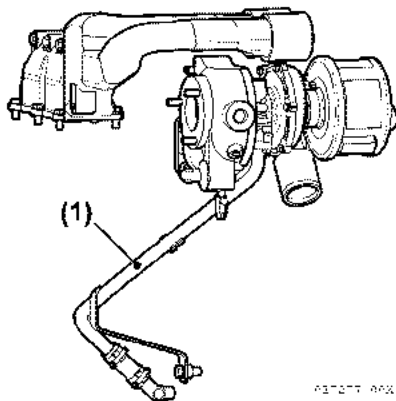

Figure 5-20
- (c) Remove the oil return line from turbine (**Figure 5-20**).